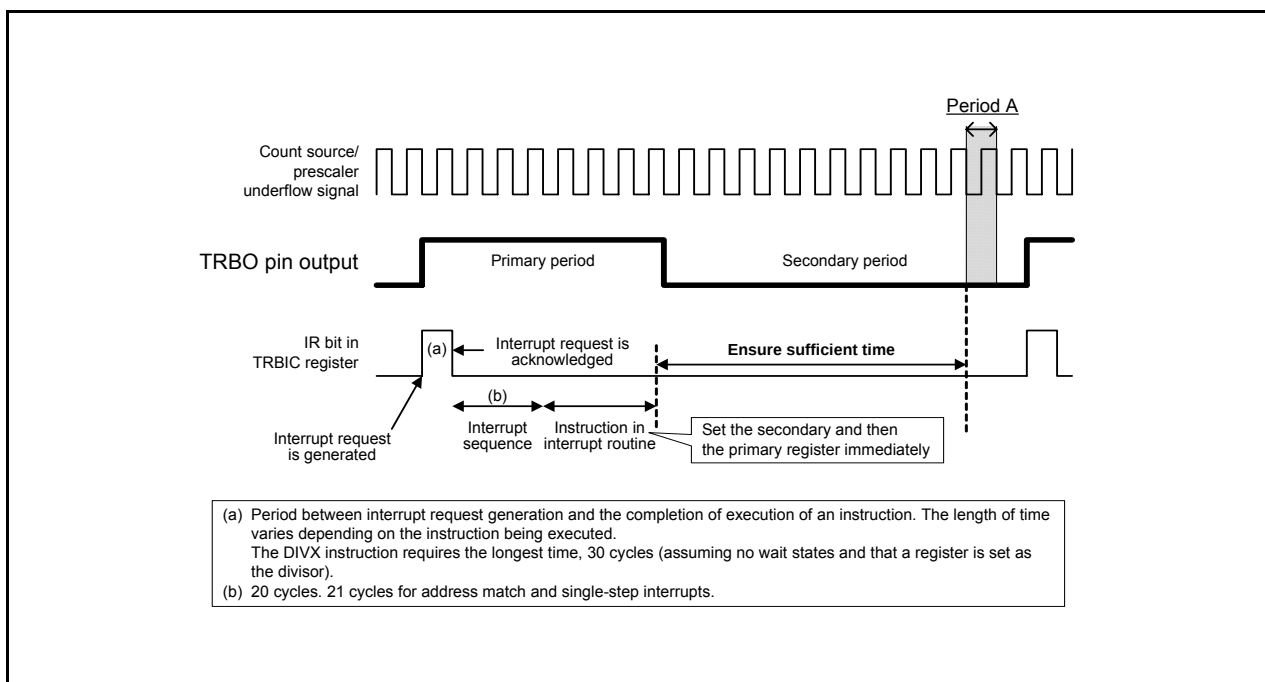

Figure 17.24 Workaround Example (a) When Timer RB interrupt is Used
- (1) To write to registers TRBPRES and TRBPR during count operation (TCSTF bit is set to 1), note the following points:
- (2) To change registers TRBPRES and TRBPR during count operation (TCSTF bit is set to 1), synchronize the TRBO output cycle using a timer RB interrupt, etc. This operation should be performed only once in the same output cycle. Also, make sure that writing to the TRBPR register does not occur during period A shown in Figures 17.24 and 17.25.
As shown in Figure 17.24, write to registers TRBSC and TRBPR in the timer RB interrupt routine. These write operations must be completed by the beginning of period A.